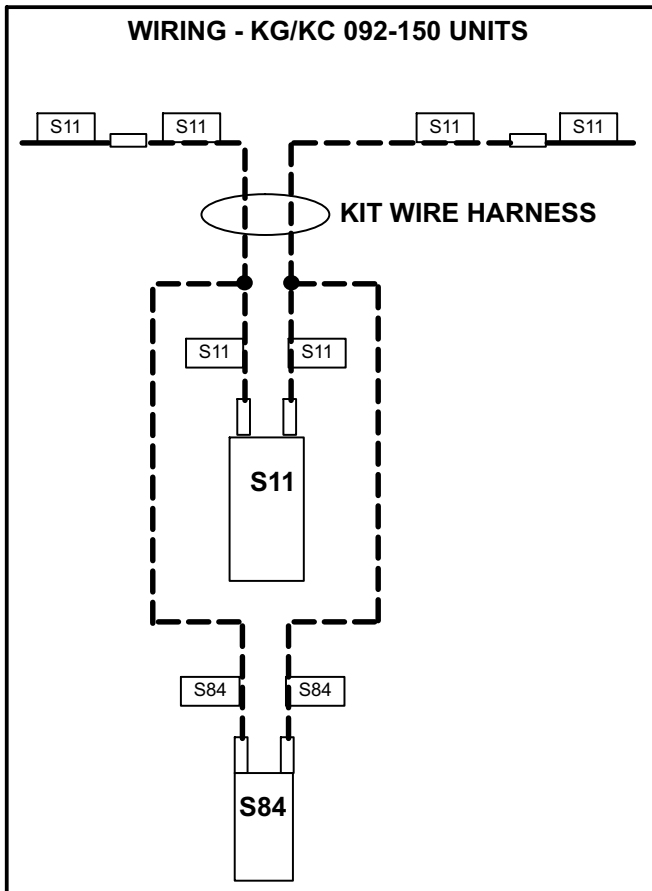

FIGURE 8
- 2- Connect harness wires as shown in figure 8.